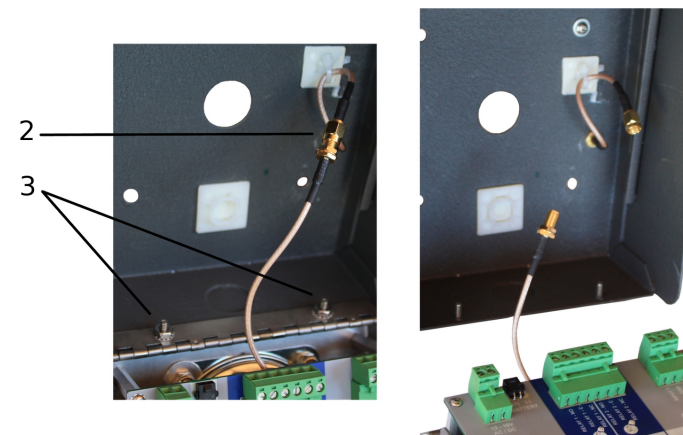

Figure 2
- 2) Disconnect 6-inch antenna extension cable inside enclosure.(Figure 2)
- 3) Remove the front door by removing the two hinge screws. (Figure 2)